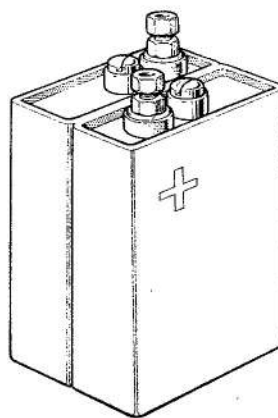

Fig. 1. Battery, 2·4-volt, 1·2 amp. hr.
2. This battery is illustrated in fig. 1. It consists of two cells with their containers welded together; solid steel stoppers with rubber seating washers fitted to the filling apertures render the cells completely unspillable. Two 4 B.A. terminals are fitted, adequately insulated from the metal container; a + sign is embossed immediately adjacent to the positive terminal.